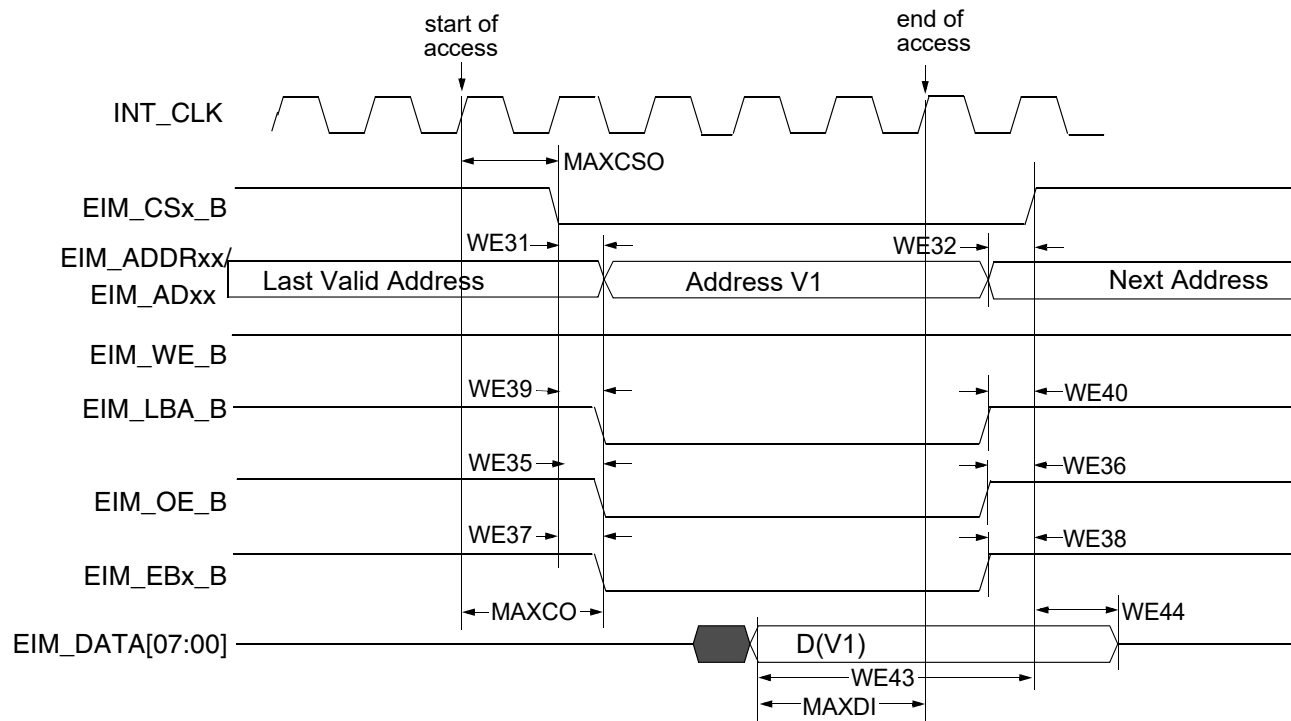
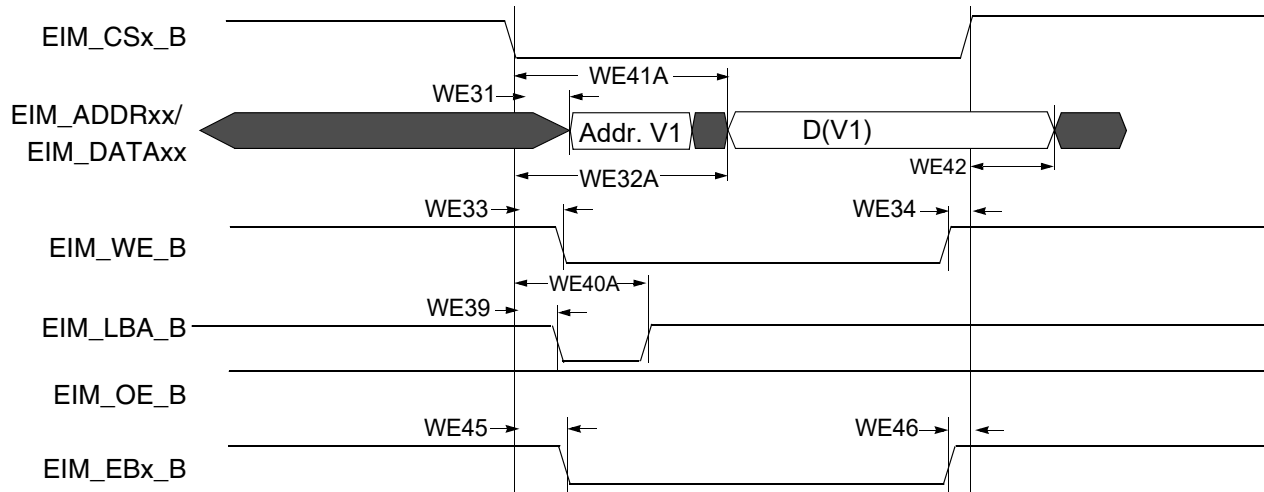

Figure 16. Asynchronous Memory Read Access (RWSC = 5)
Figure 19. Asynchronous A/D Muxed Write Access
Figure 16 through Figure 20 and Table 36 provide timing parameters relative to the chip select (CS) state for asynchronous and DTACK EIM accesses with corresponding EIM bit fields and the timing parameters mentioned above.
Asynchronous read and write access length in cycles may vary from what is shown in Figure 16 through Figure 19 as RWSC, OEN & CSN is configured differently. See the i.MX 6Dual/6Quad reference manual (IMX6DQRM) for the EIM programming model.